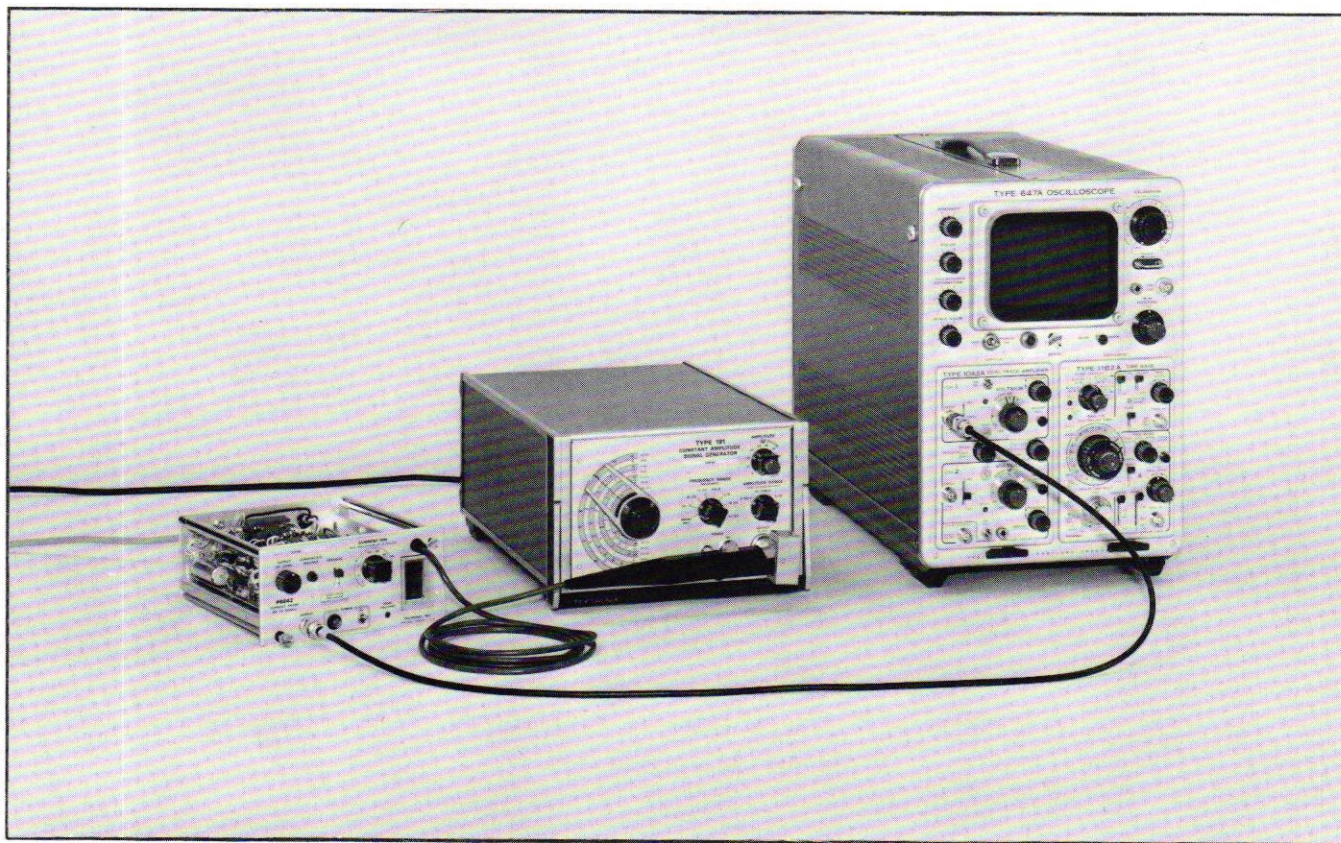

Fig. 6-19. Test setup for steps 16 and 17.
c. Degauss the probe and connect to the current loop. See Fig. 6-19.